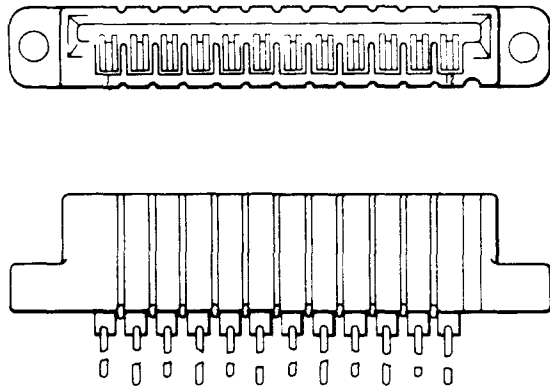

Fig. 3—909A Connector
2.02 **909A:** The 909A connector (Fig. 3) consists of a molded block of insulating material containing spring terminals, equipped with twin contacts for connection to a printed wiring board. The wiring end of each terminal is arranged for mechanically wrapped connection, unless otherwise stated. This connector is arranged for rigid mounting by means of No. 6 screws with closest recommended side-by-side mounting centers of 0.531 inch, or for floating mounting by means of two P-12B953 screws with closest recommended mounting centers of 0.562 inch. This connector is used in the J99289 calling-receiving unit in common systems.